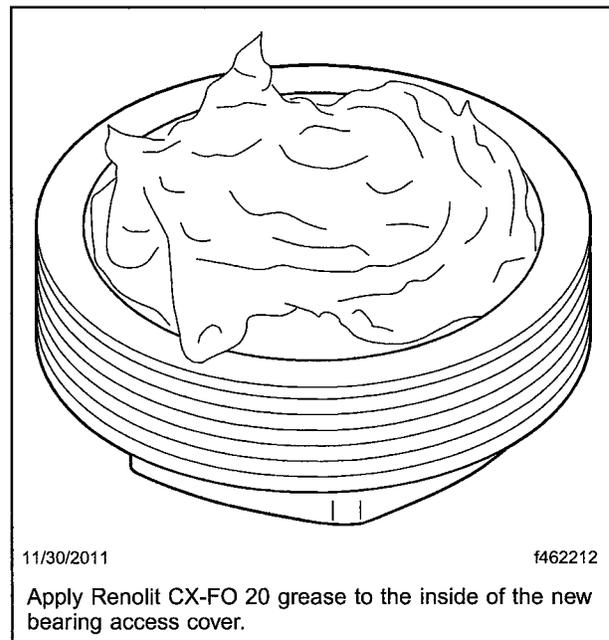

Fig. 6, Greased Bearing Access Cover
3. Fill the inside of the new bearing access cover to slightly above flush with Renolit CX-FO 20 grease. See Fig. 6.